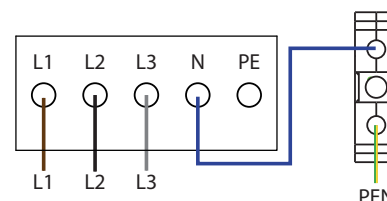

Figure 25: 4-pole connection
3. Connect the cables in accordance with the label on the PCB terminals (Figure 25 on page 21).